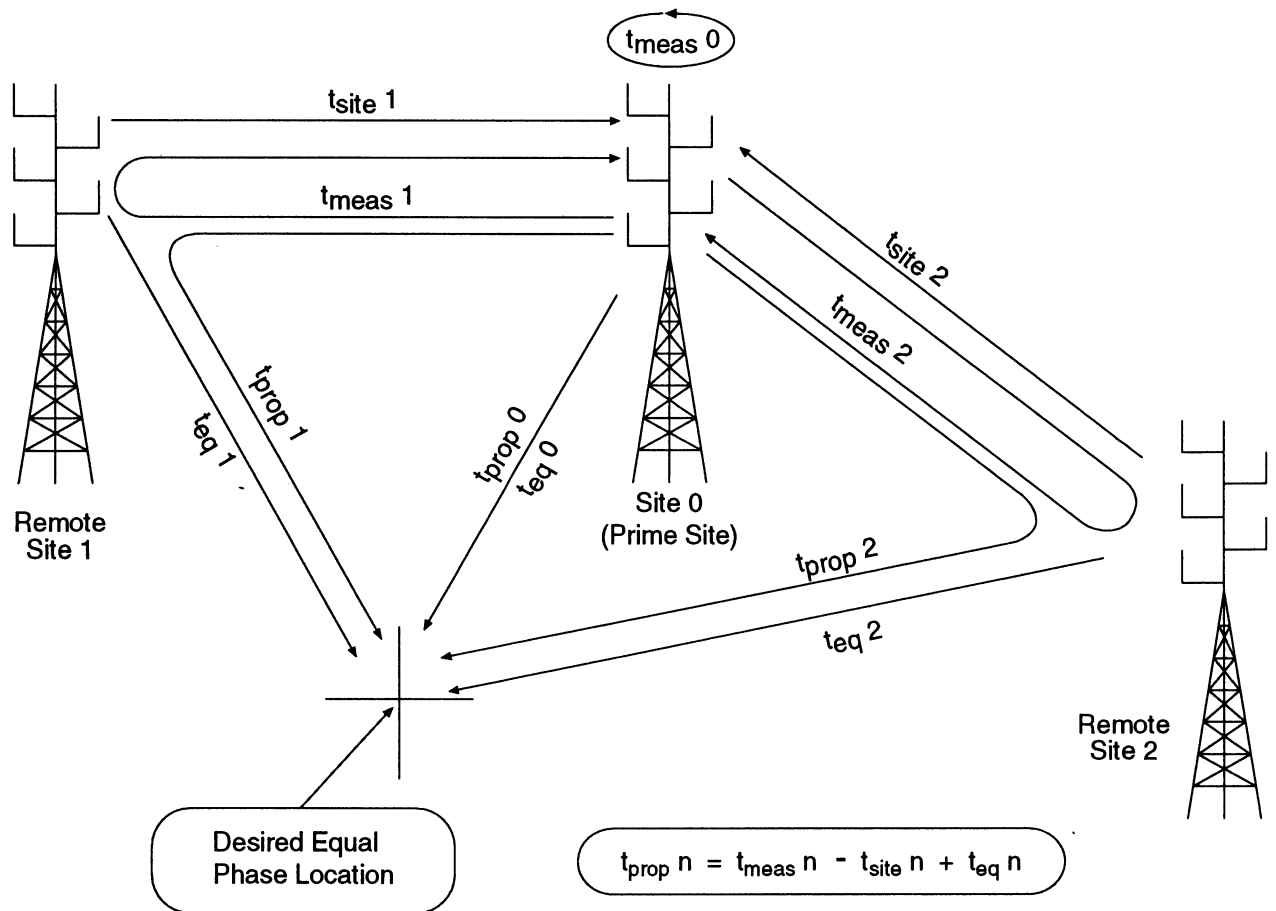

Figure 41. System Phasing Area
- p. To display the pattern as shown in Figure 41, adjust the vertical and horizontal SCALE knobs.
Step 52. For each site, use the following formula to compute the propagation time for the signal as it passes from the prime site, through site n , and to the desired equal phasing area. Refer to Figure 41 for an example phasing area.